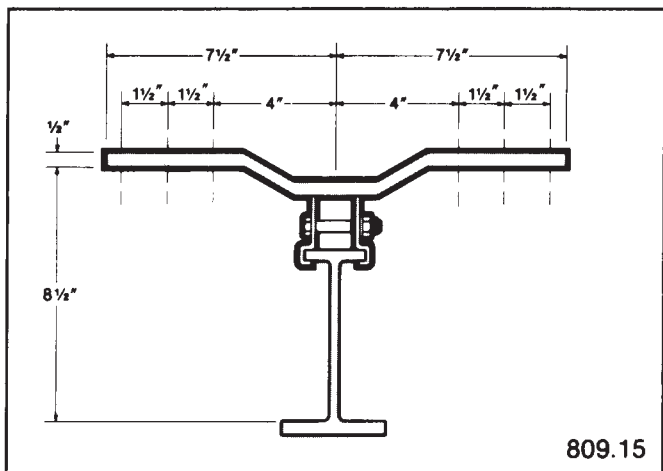

FIGURE 37
- 809.15 (Refer to Figure 37): For up to 8-wire (4-run) dual conductor bottom-entry electrification or 6-wire single conductor bottom-entry electrification at 8½" above operating flange surface of 603.6 *SuperTrack™*.